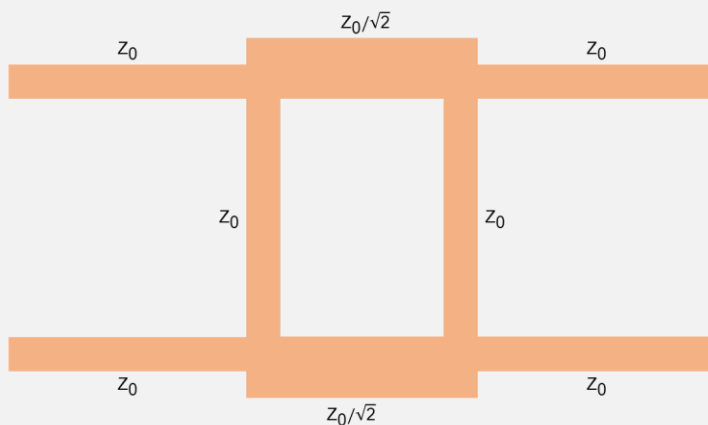

Figure 7. Geometry of branch line coupler
3. Synthesize the physical parameters (length and width) for the  $\lambda/4$  lines with impedances of  $Z_0$  and  $Z_0/\sqrt{2}$  ( $Z_0$  is the characteristic impedance of the microstrip line which is taken as  $50 \Omega$ ). The geometry of the Branch line coupler is shown in Figure 7.
The discrepancies between these figures and their counterparts from the lumped element model should be examined. The electromagnetic simulation from the distributed element accounts for parasitic effects, which could include loss through the materials, edge effects, and coupling between the output ports. Additionally, the distributed element design has extra length due to the added microstrip tees, which were not shown in the geometry shown in Figure 7. To compensate, the lengths of the transmission lines could be adjusted.